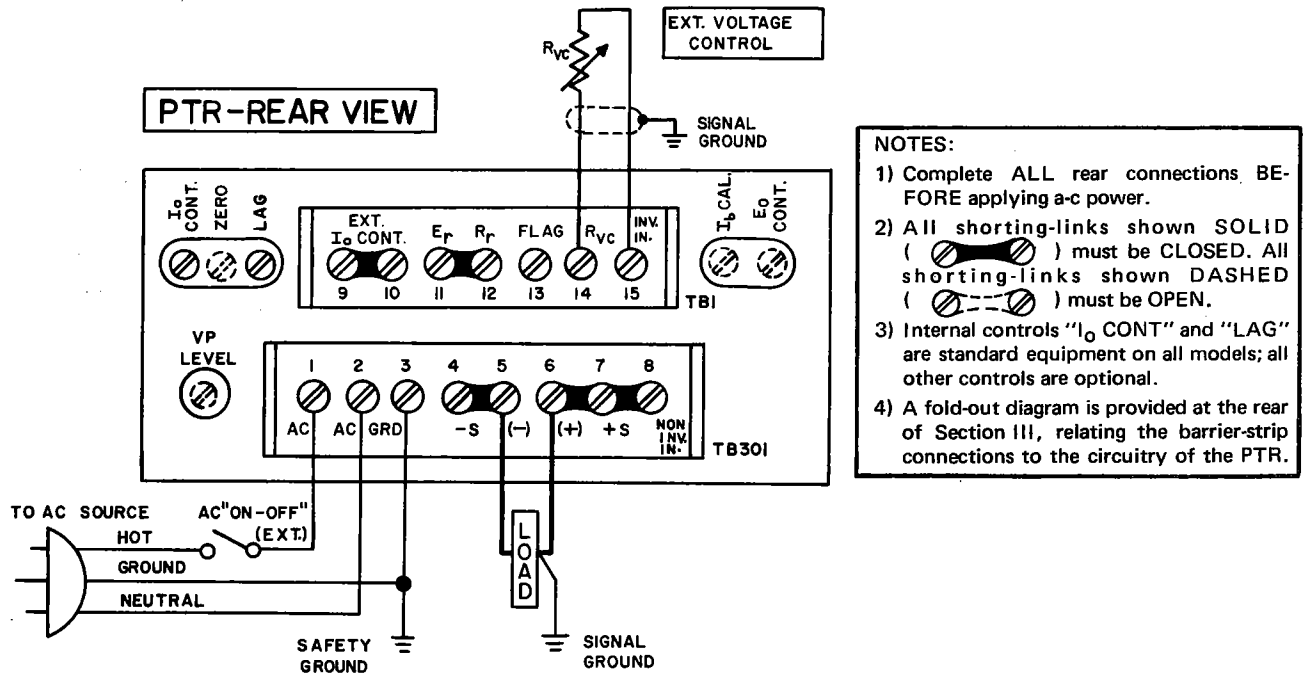

FIG. 2-1 REAR TERMINATIONS WITH JUMPER LINK CONNECTIONS FOR STANDARD POWER SUPPLY OPERATION, PTR GROUP.
2-4 Two barrier-strips (TB1 and TB301) with a total of (15) screw-type terminals are provided. All a-c input, d-c output and programming connections are available here. A table of terminal functions (Table 2-1) and an illustration of the power supply rear (FIG. 2-1) is provided below:
2-5 **INTERNAL CONTROLS** All internal controls are accessible from the rear of the power supply and labeled consistent with the nomenclature used in the schematic diagram and in the text. Table 2-2 presents a listing of all controls and their functions, while FIG. 2-1 (and all illustrations in Section III) shows their physical location.